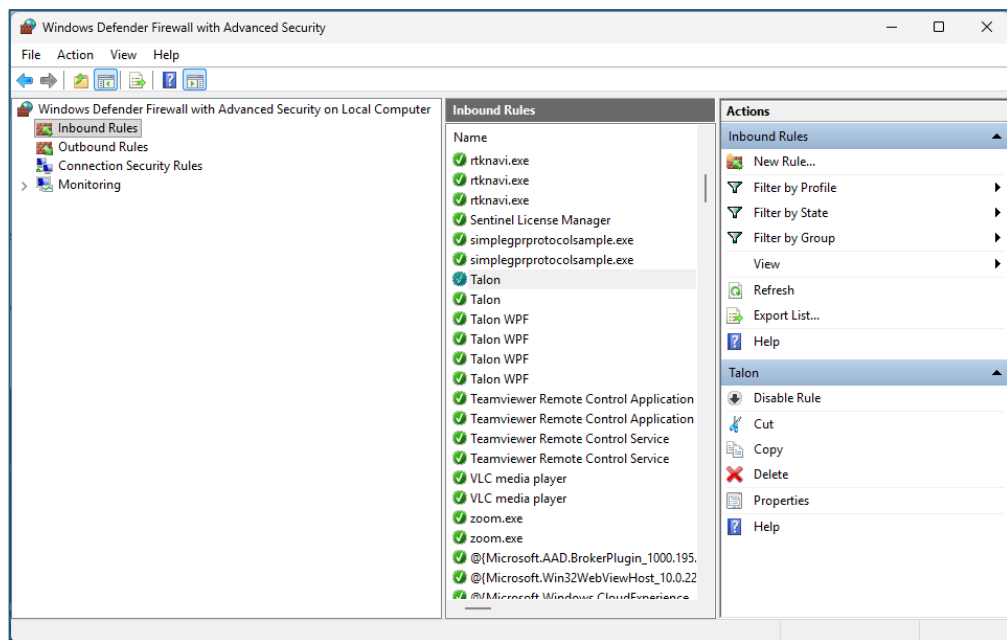

Figure 50 Windows Defender Firewall with Advanced Security showing inbound rules for Talon applications.
- a. Select Inbound Rules. A list of firewall rules will be displayed. Locate the Talon-2 application (it may appear as talon.exe). Talon-3 (not released at the time of writing this text) may appear in the firewall application as Talon WPF as shown in Figure 50.